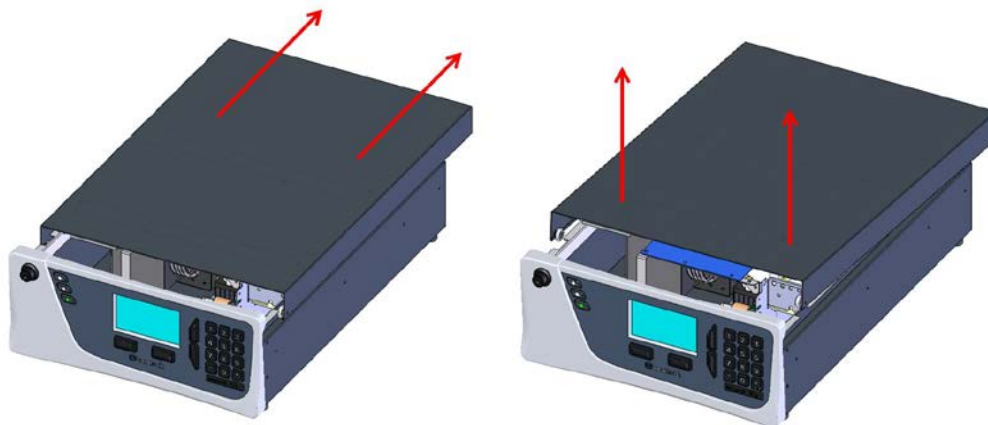

Figure 6 – Opening the Instrument
3. To completely remove, slide the lid backwards until the rollers line up with the gaps in the track and pull the lid upwards to remove from the instrument (refer to Figure 6).